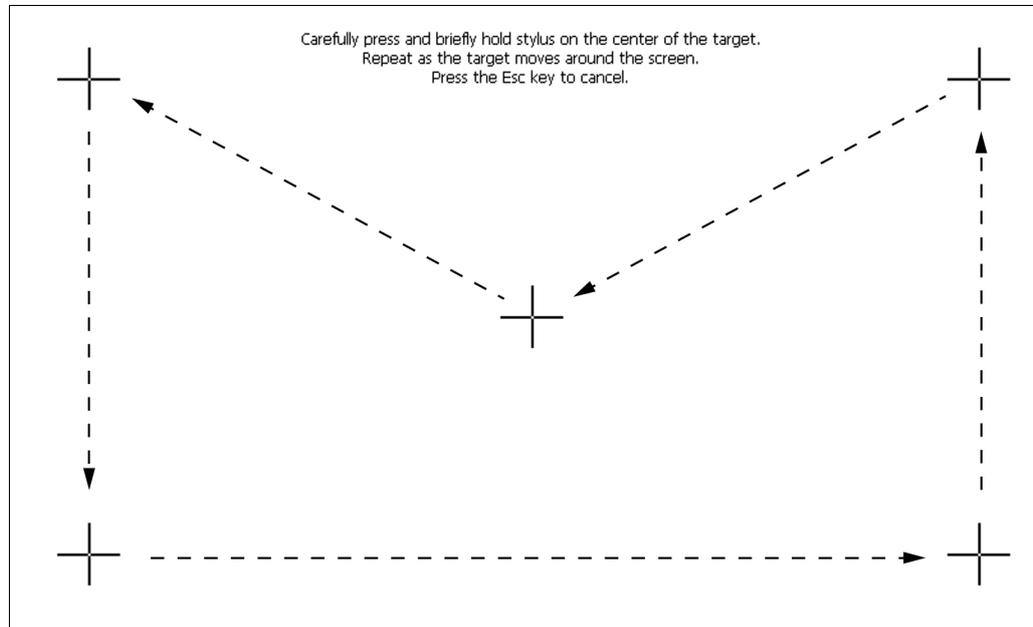

Fig. 30 System Menu. Settings - Display (Calibrate Touch Display)
- ▶ The calibration screen opens (Fig. 30).
3. If you take your finger off the cross again, the cross jumps to the top left corner (Fig. 30).